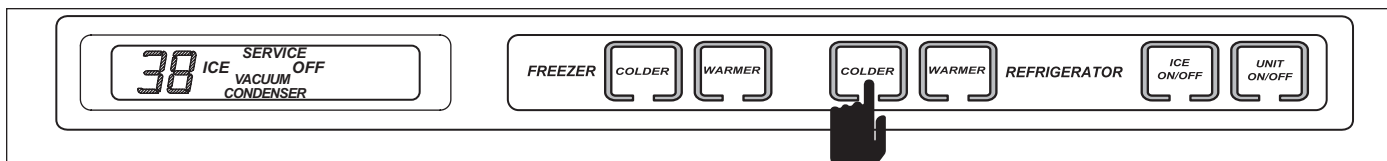

Figure 3-27. Press COLDER Key to Display Temperature Reading
3. Press the COLDER key now to display the second reading, the refrigerator compartment temperature (See Figure 3-27).